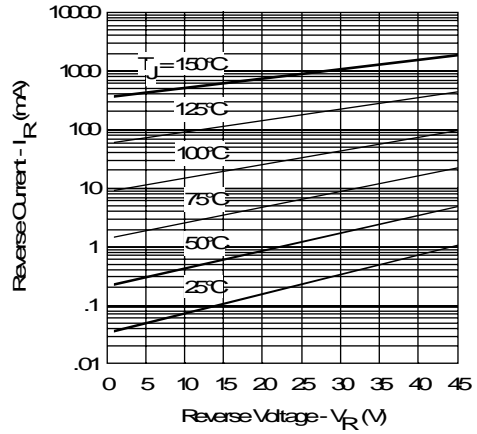

Fig. 2 - Typical Values of Reverse Current Vs. Reverse Voltage
| I_{RM} Max. Reverse Leakage Current (1) * See Fig. 2 | 15 | mA | $T_J = 25^\circ\text{C}$ |